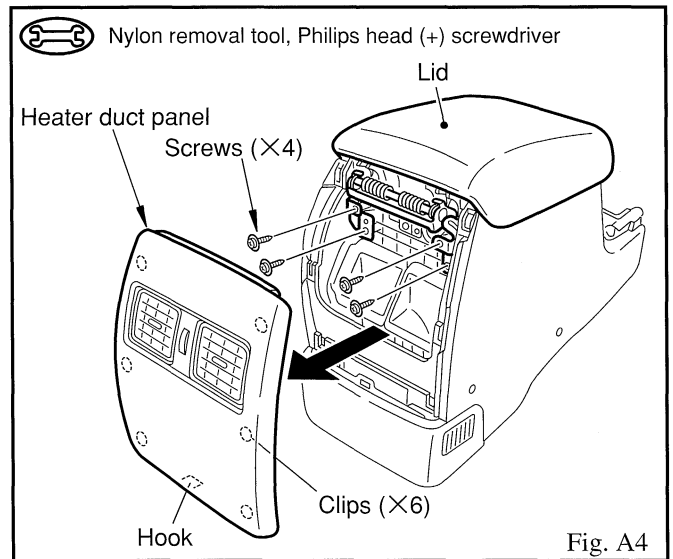

Fig. A4
- i . Remove the heater duct panel. (Fig. A4)
- ii . Remove the four screws, then remove the lid. (Fig. A4)
- ➔ 2. Install the heater duct panel and lid onto the rear console box. (Refer to Fig. A4 on page 3.)